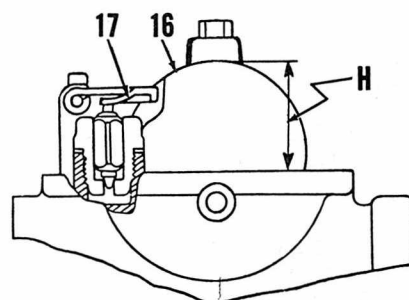

**Fig. BS4-1—Exploded view of Mikuni VM type carburetor.**
**CARBURETORS.** Two Mikuni VM 26SC carburetors are used. Idle speed is adjusted at (2—Fig. BS4-1) after removing the carburetor top covers (rubber). Idle mixture is adjusted at needles (11) after removing carburetor side covers. Approximate setting for idle mixture needle (11) is 2 turns open. Clip (5) should be installed in second groove from top of needle (6). Float level (H—Fig. BS4-2) should be 24MM (1 1/8-inch). When checking float level, make certain that spring in fuel inlet needle is not compressed and